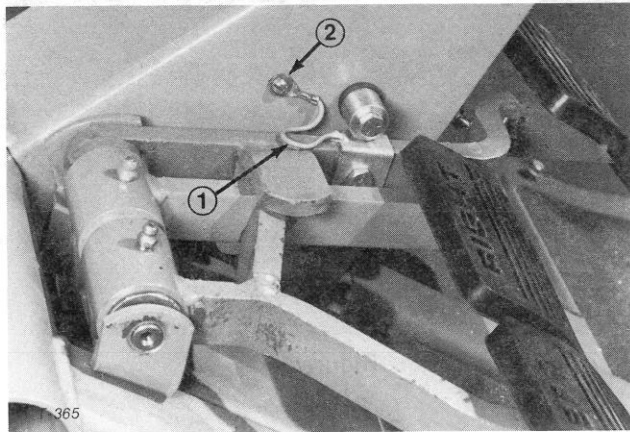

Figure 9
12. Assemble an external tooth lockwasher onto the machine screw, slip screw through grounding clip wire end and through hole in steering mount (Fig. 9).